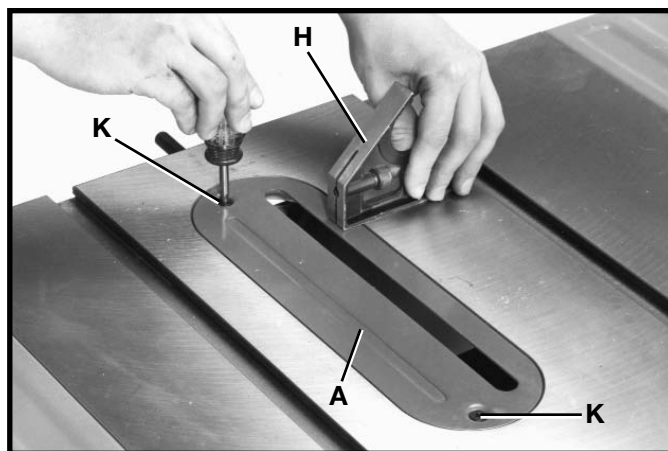

Fig. 13
6. **Replace table insert (A) Fig. 13, making certain that it is flush with table surface and rubber washer is in place.**
7. Place a straight edge or square (H) Fig. 13, on the saw table extending over the table insert (A) as shown. If an adjustment is necessary, tighten or loosen the two adjustment screws (K).